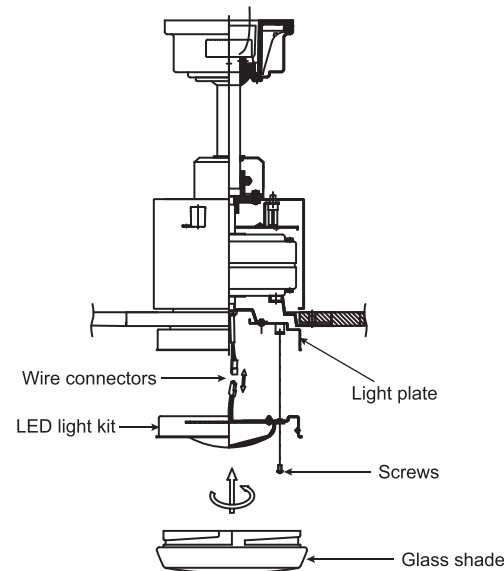

Fig. 18
**Step 1.** Loosen the three mounting screws on the inside of the LED light kit. (Fig.18)
**Step 2.** While holding the LED light kit under the fan motor, make the wire connections: (Fig. 18)
**Step 3.** Tuck the connections neatly into the light plate. Place the key holes on the LED light kit over the 2 screws previously loosened from the light plate, turn the LED light kit until it locks in place at the narrow section of the key holes. Secure by tightening all three screws. (Fig.18)
**Step 4.** Raise the glass shade against the light kit and turn clockwise until snug, DO NOT OVERTIGHTEN. (Fig. 18)